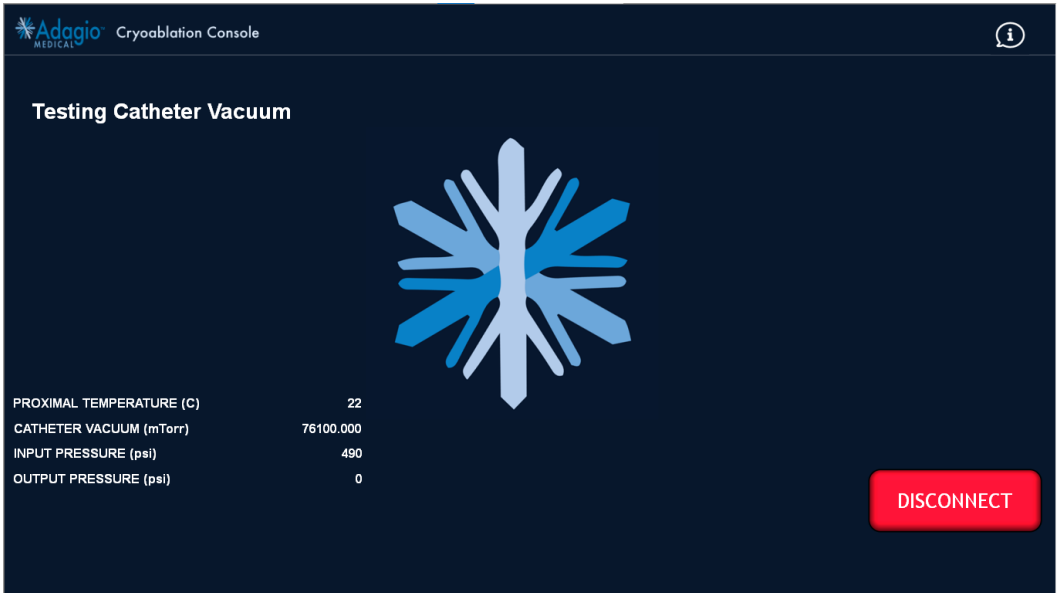
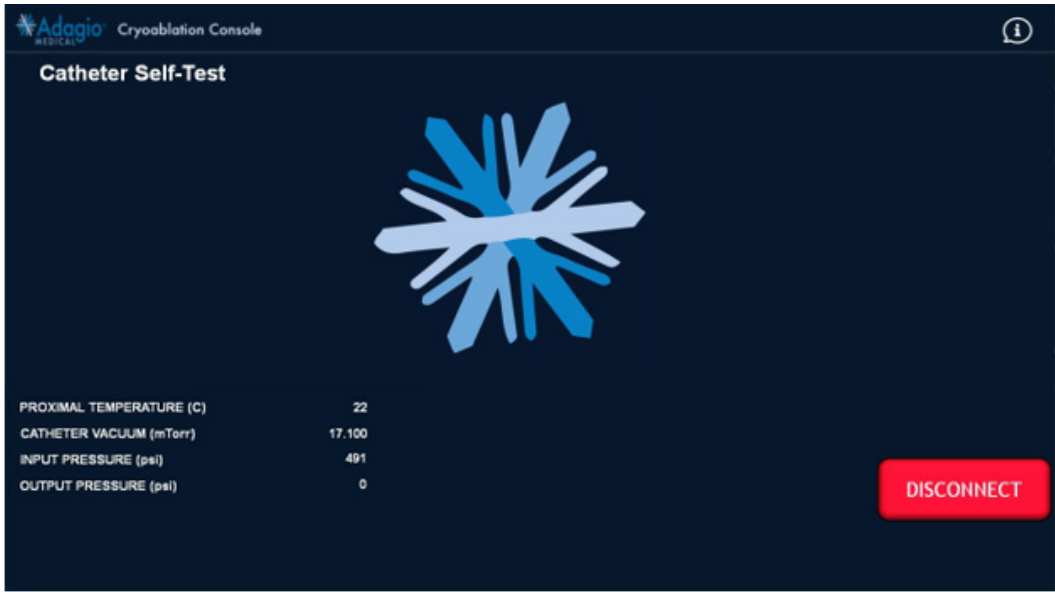

Figure 85 – Test Catheter Vacuum Screen Image
Figure 88 – Catheter Self-Test In-progress Screen Image
7. After the catheter is successfully connected, the Console will automatically begin to test catheter’s vacuum (Figure 85). If the catheter vacuum test passes, the console will automatically proceed to ask for the catheter self-test as in Figure 88 screen.
8. After the catheter connection test is successful, the Console will begin to perform a series of Catheter Self-Tests (*Figure 88*).